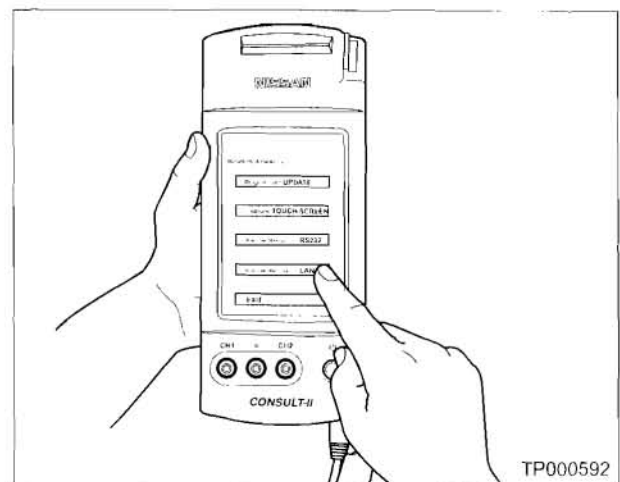

Figure A8
9. Select **Transfer files via LAN** (see Figure A8).